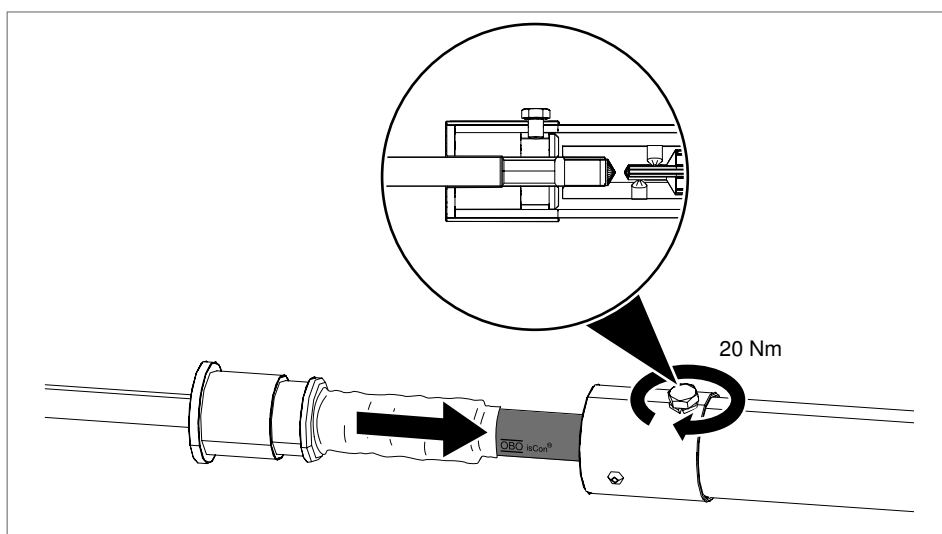

Fig. 33: Fixing the air-termination rod in the central mast
The internal potential connection element consists of two half shells. These must be located in such a way that they surround the isCon® conductor and one of the half shells is located centrally beneath the screw holes, so that it can be pressed on using the side screw (see also Fig. 33).
6. Push the retaining rod as far as it will go into the central rod. In so doing, the opening for the left copper screw (see Fig. 33) may not point to the gap between the half shells of the potential connection, but centrally to one of the half shells. If necessary, turn the half shells accordingly.